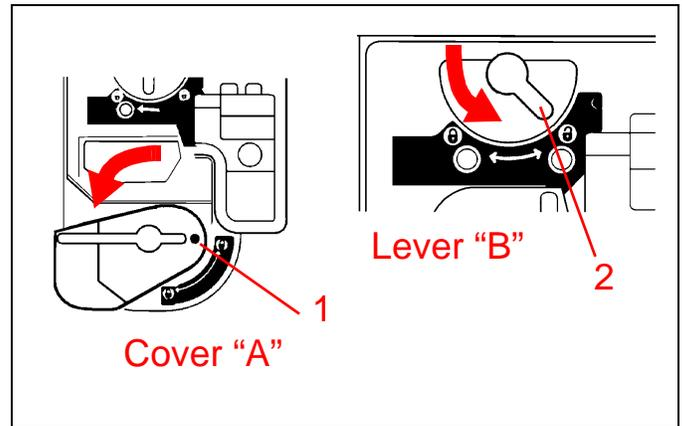

Figure 28
1. See Figure 28. Turn the peach colored cover “A” counterclockwise until the “●” mark on the cover aligns with the unlocked symbol (🔓) on the copier/printer.